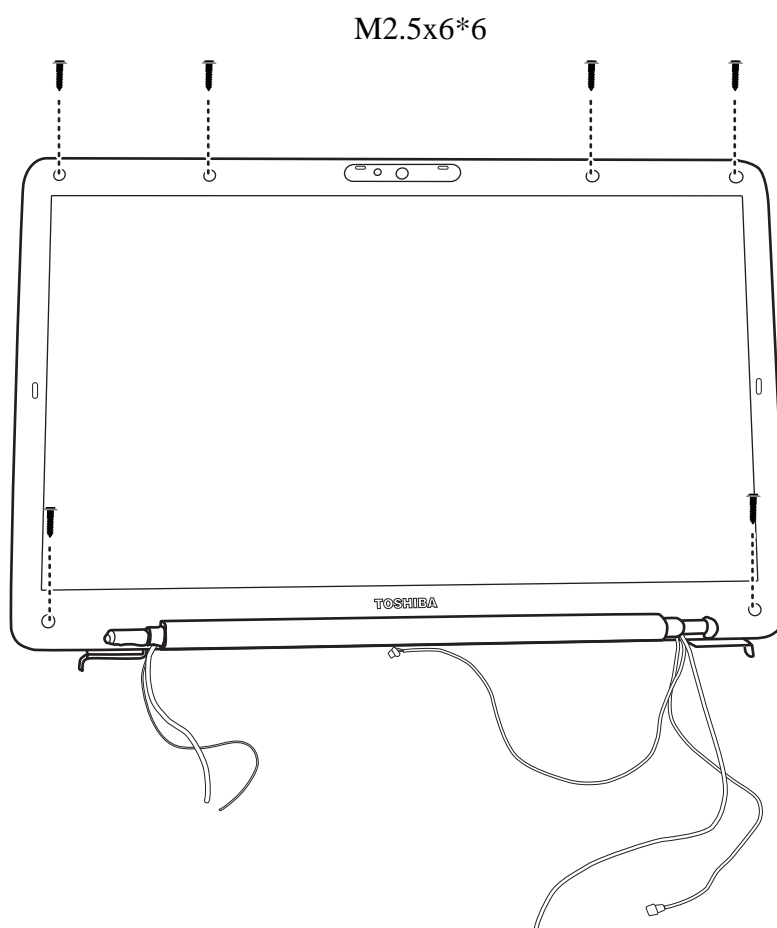

Figure 4.35 Removing the LCD Bezel Assembly
2. Remove six M2.5x6 screws as shown in Figure 4.35.